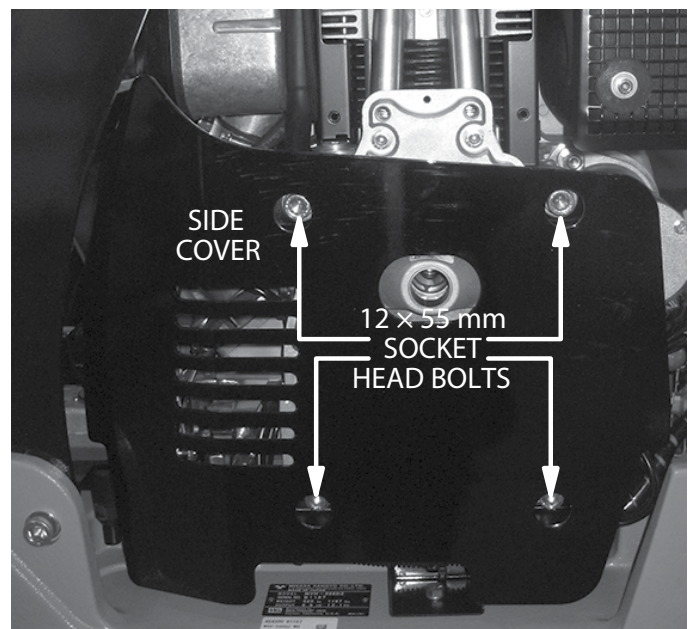

Figure 30. Side Cover Removal
4. Remove and set aside the four 12 x 55 mm socket head bolts securing the side cover to the engine (Figure 30). Remove the side cover and set it aside.